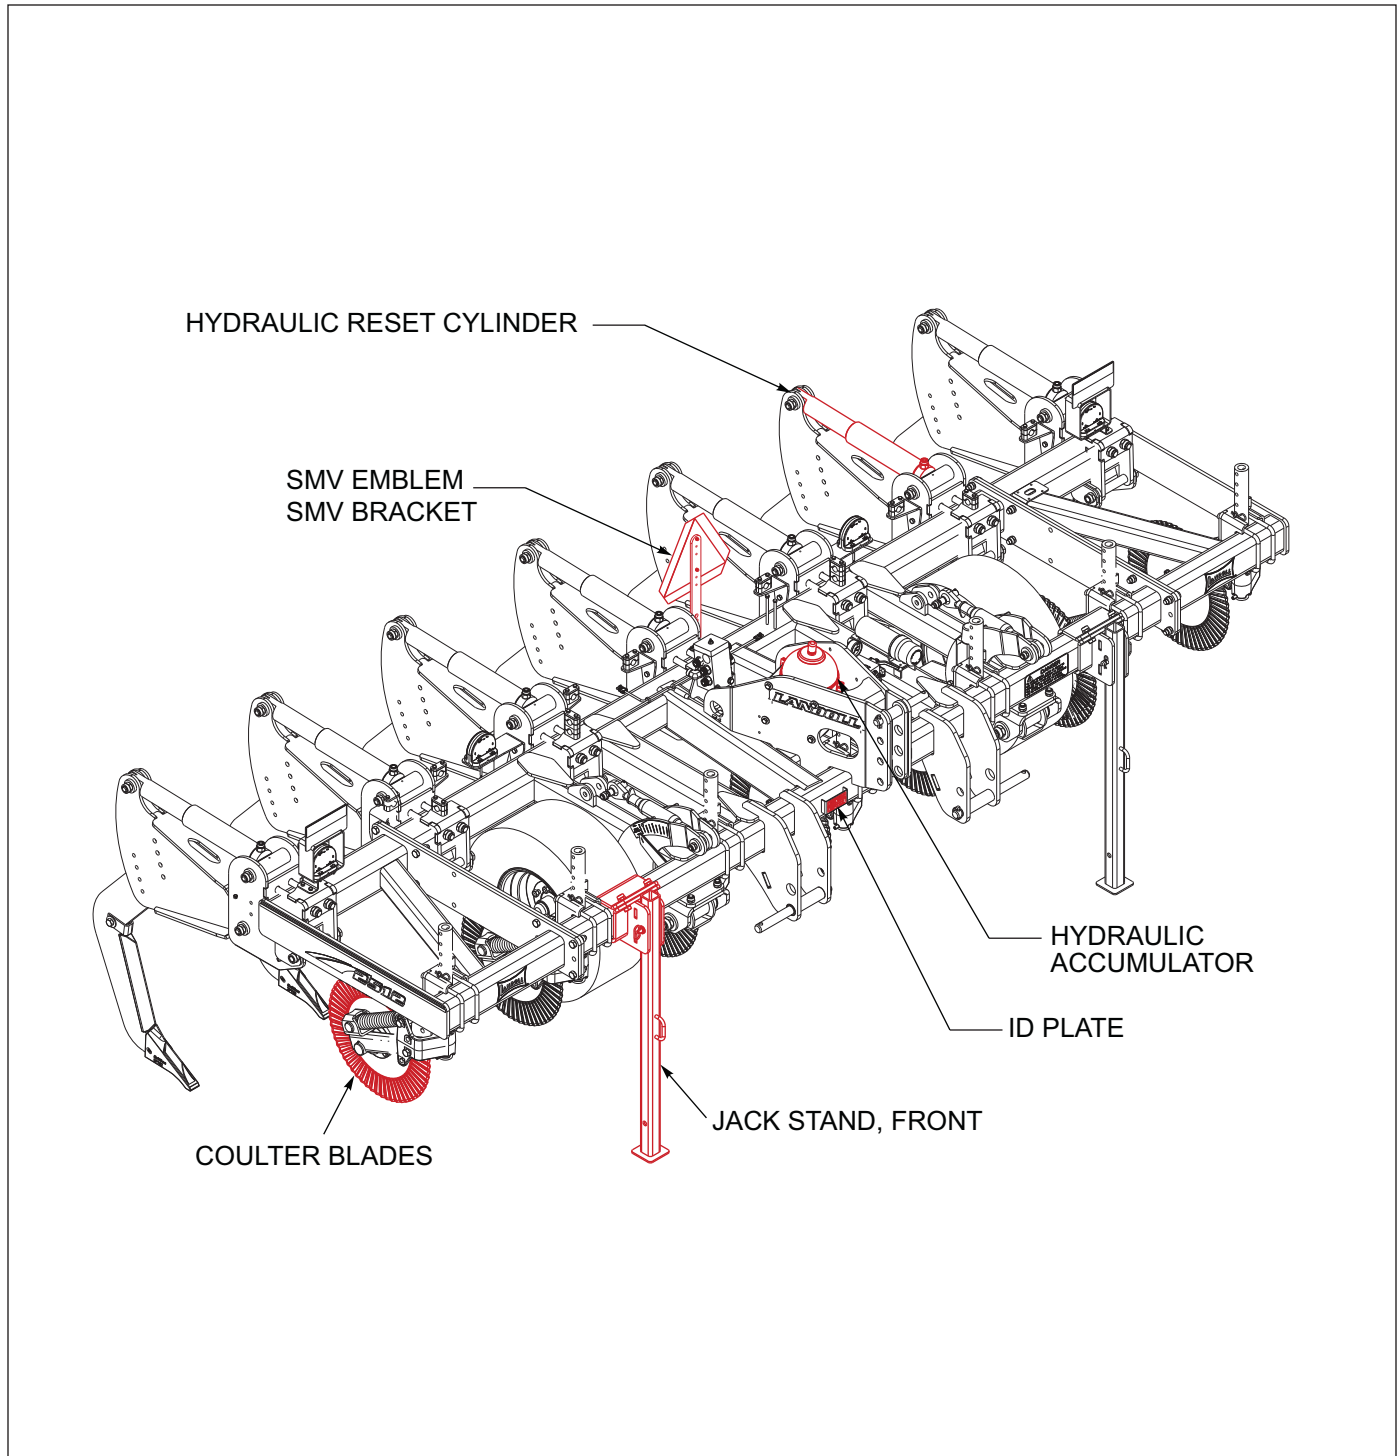

Figure 3-3: 2512 Series Parts Identification
1. Attach the SMV mounting bracket at a point where emblem is visible from rear of machine, using u-bolt and 5/8-11 flange head serrated nuts (See Figure 3-3.)